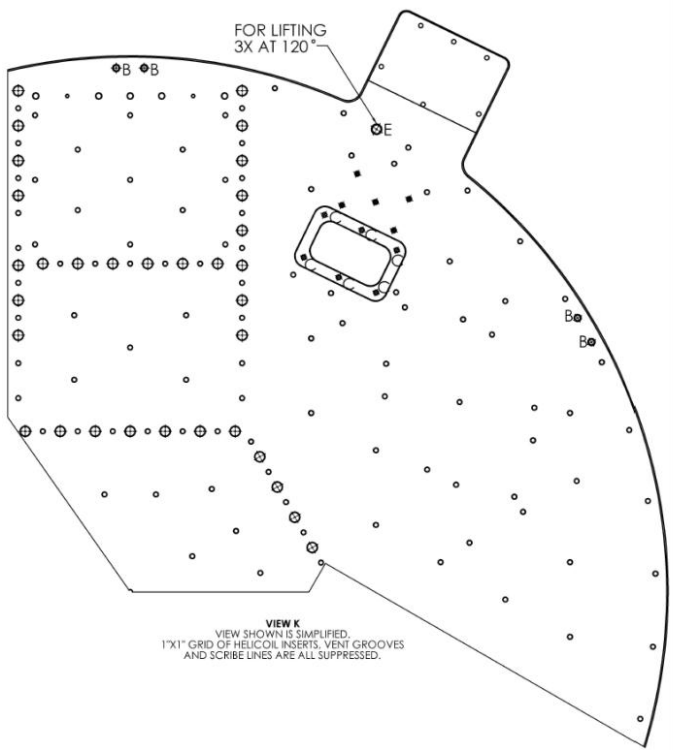

Fig 6.1
- Place D0901516 on granite table using level blocks, ribbed side down Figure 6.1
see Appendix C for p/n and illustration for 3/8 x 1" dowel pin Qty. 30 as shown on Figure 6.1. Hole labeled D is 5/8-11 for lifting Fig 7.1.